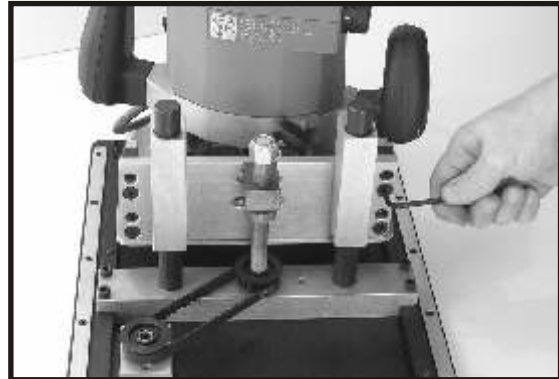

FIG. 5
2. Using the 1/4-20 x 1" flat head screws (Item# 16, removed in step 1), re-install the carriage plate to the Rout-R-Lift™ (Fig. 5)